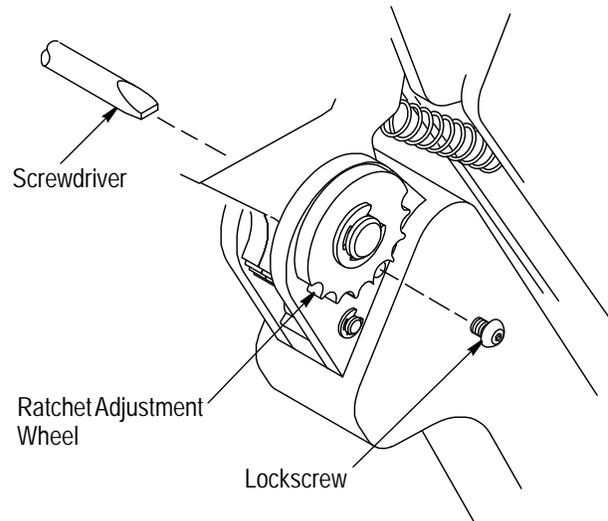

Figure 6
6. RATCHET (SHUT HEIGHT) ADJUSTMENT (Figure 6)